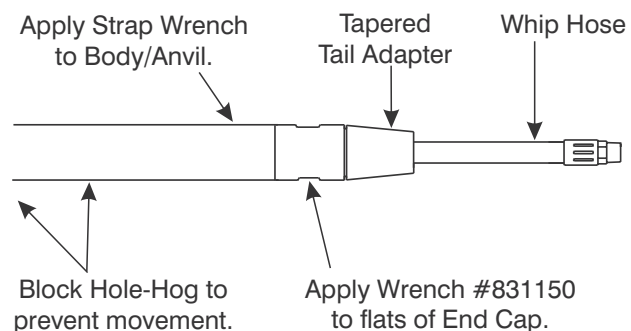

Figure 8-5. Loosening the End Cap
1. Place the Hole-Hog on a level surface and secure it with a strap wrench or saddle clamp. Block the Hole-Hog to prevent rolling during removal of the End Cap. Refer to Figure 8-5.